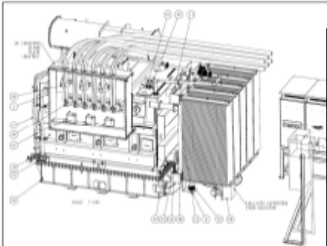

Figure 3-2: General Arrangement of FCL
3.3.1 Figure 3-2 below shows the general arrangement of the FCL.